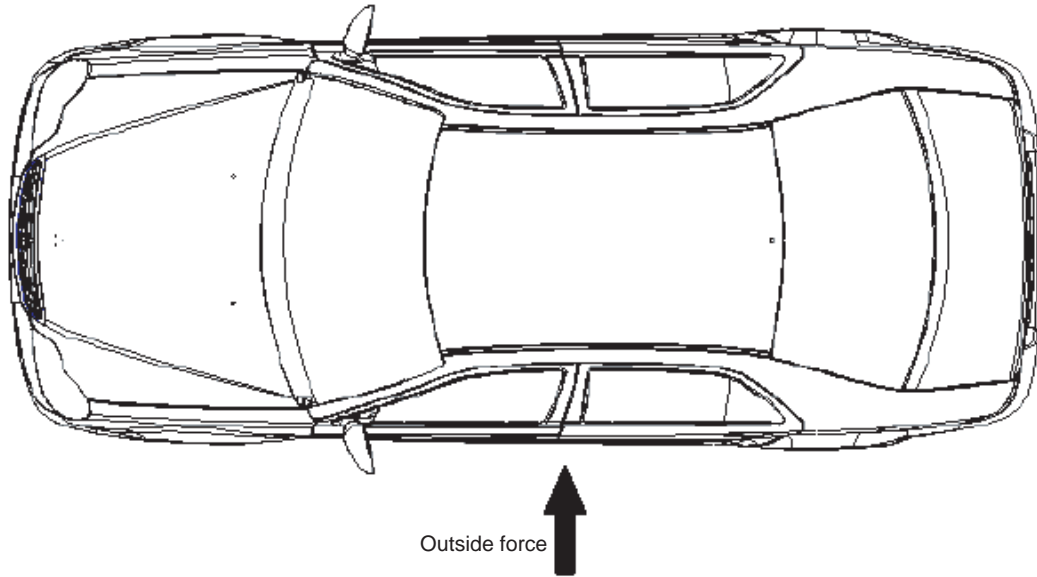

FIGURE 5-16 Perpendicular outside Force in the Middle of the Vehicle
4. Crashed By Perpendicular Outside Force In the Middle of The Vehicle (Figure 5-16)
Figure 5-16 shows the situation when the middle of the vehicle is pressed by perpendicular outside force. So, the places should be inspected are as follows: